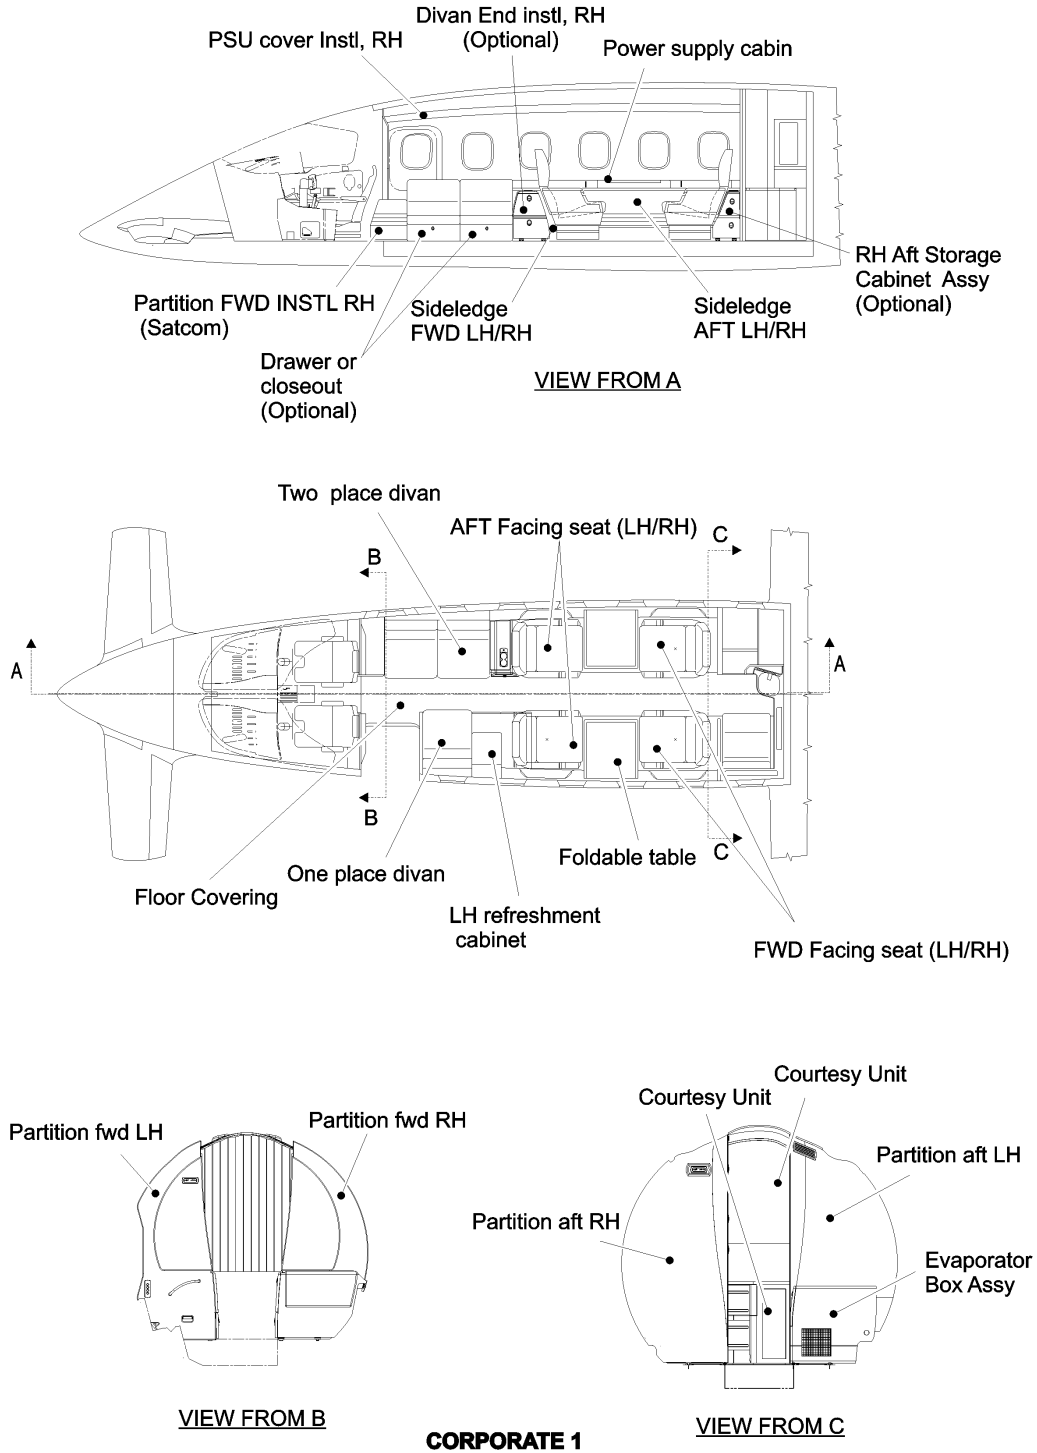

Fig. 12 - Corporate 1 Configuration
M. The Corporate 1 passenger compartment (Ref. to Fig. 12).